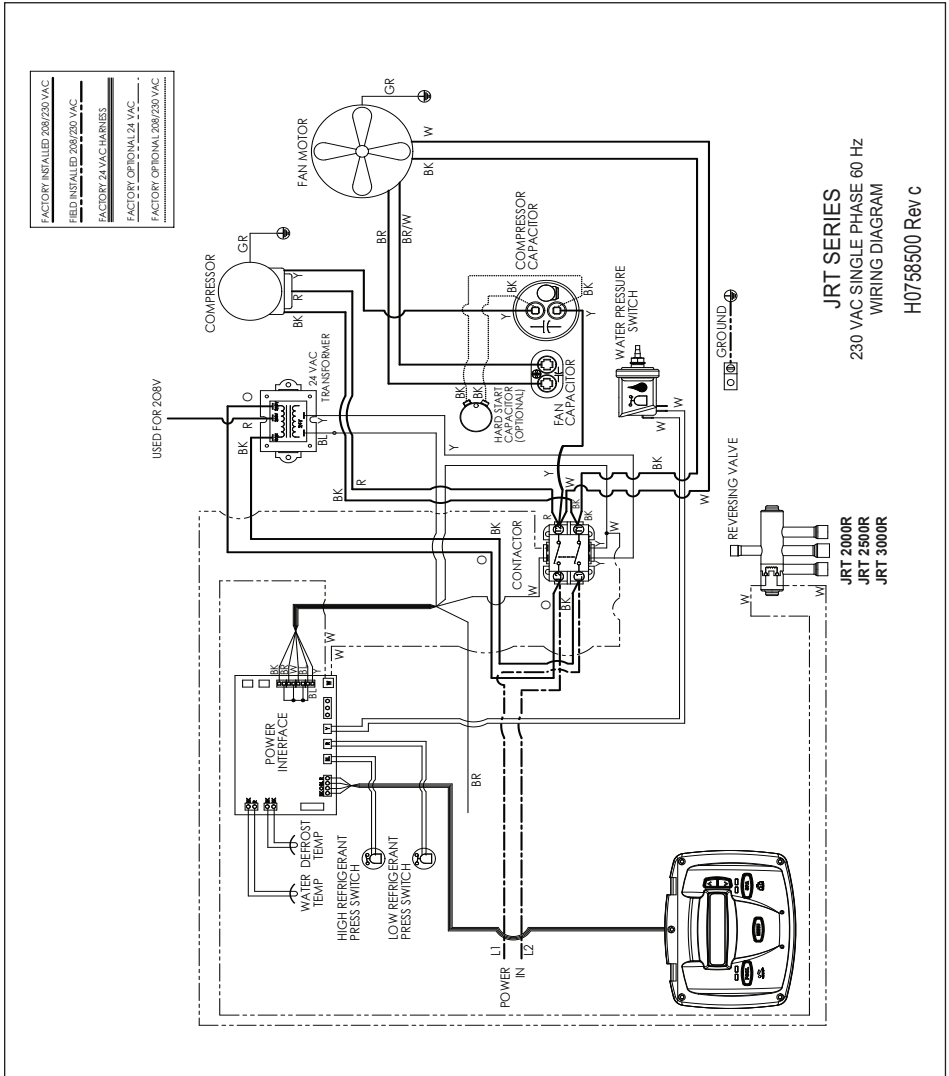
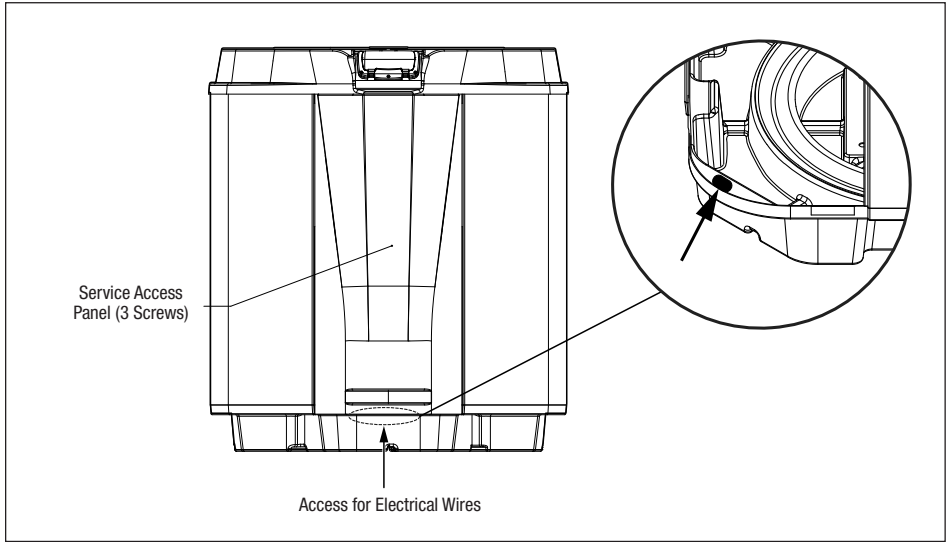

Figure 8. JRT Single-Phase Electrical Supply Wiring Diagram
Figure 10. Jandy JRT Heat Pump Front View
Wiring connections must be made exactly as shown in the wiring diagram found on the inside of the heat pump access compartment (see *Figure 8* for single phase electrical wiring). The heat pump must include a definite means of grounding and bonding. There is a bonding lug on the right side of the heat pump, where a bond wire must be attached.
2. Remove the three (3) screws that attach the service/access panel to the heat pump unit (see *Figure 10*).
8. Connect the wires to the terminals on the main contactor as shown in the wiring diagram. See *Figure 8*.
2. Remove the screws that attach the service/access panel to the heat pump unit and the cover to the junction box (see Figure 10).
2. Remove the screws that attach the service/access panel to the heat pump unit and the cover to the junction box (see *Figure 10*).
3. Run the wires from the pool/spa control system into the conduit connection labeled "low voltage connection", located on the lower right hand side of the heat pump (see *Figure 10*). Ensure conductors are not pinched or damaged.
- Remove the three (3) screws that attach the front panel to the heat pump and remove the front panel. See *Figure 10*.
- Run four (4) 22 AWG solid copper wires into the low voltage soft membrane located on the lower left-hand side of the heat pump. The wires may be up to 300 feet (91.4 m) in length.
- Connect the wires to the 4 position terminal on the lower left-hand corner of the Power Interface PC Board, labeled “User Interface1”. See *Figure 8*. The wires will be added to the existing wiring to the User Interface installed on the heat pump.